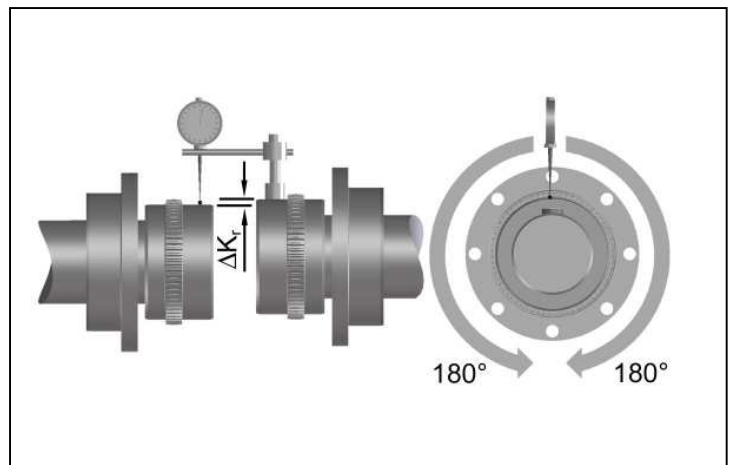

Fig. 11 Radial Misalignment ΔK_r measure
- Measure one complete revolution. To this end, turn the dial gauge by 360° . Determine the largest deviation ΔK_r (Fig. 11).